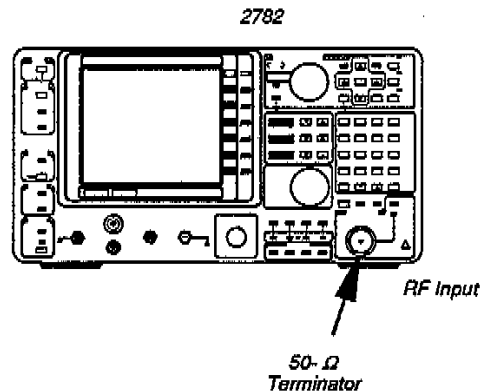

Figure 2-15. Test Setup for Equivalent Input Noise Check
- b. Connect a 50 Ω terminator to the 2782 RF INPUT (as shown in Figure 2-15). Then, press the INPUT button, and press the RefSigOut ON/off button to select OFF.